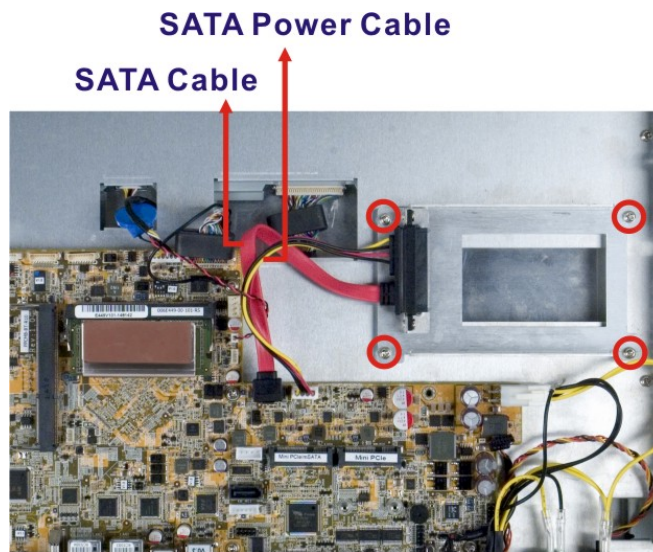

Figure 3-5: PPC-F17B-BTi HDD Bracket Retention Screws
Step 2: Remove the HDD bracket from the PPC-F12B/15B/17B/19B-BTi. The HDD bracket is secured on the panel PC with four retention screws (**Figure 3-5**). Remove the four retention screws and disconnect the SATA and SATA power cables. Lift the bracket off the panel PC.